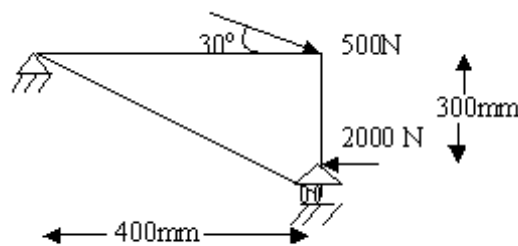

Figure 8
8. Estimate the displacement vector, stresses and reactions for the truss structure as shown below Figure8: